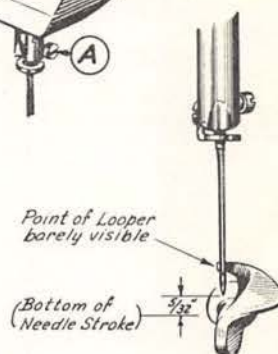

FIGURE 2
- 3 Turn the machine by hand, rotating the Looper counterclockwise, thus raising the Needle $\frac{5}{32}$ of an inch from the bottom of its stroke as shown in Figure 2.
At this time, the point of the Looper should be barely visible on the left side of the Needle as shown in Figure 2. To adjust, loosen Screws C (Figure 3) and rotate Knurled Looper Holder desired amount in either direction. Tighten Screws C securely.